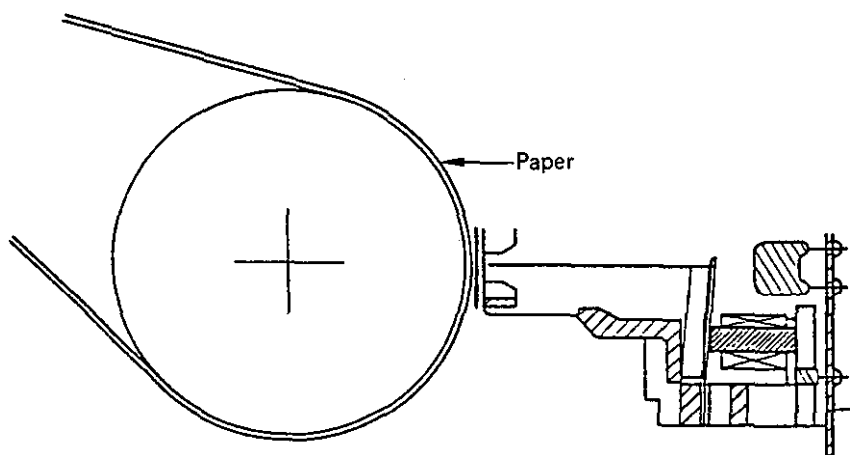

Figure 3-3
(2) Operation of printhead (See Figure 3-3.)